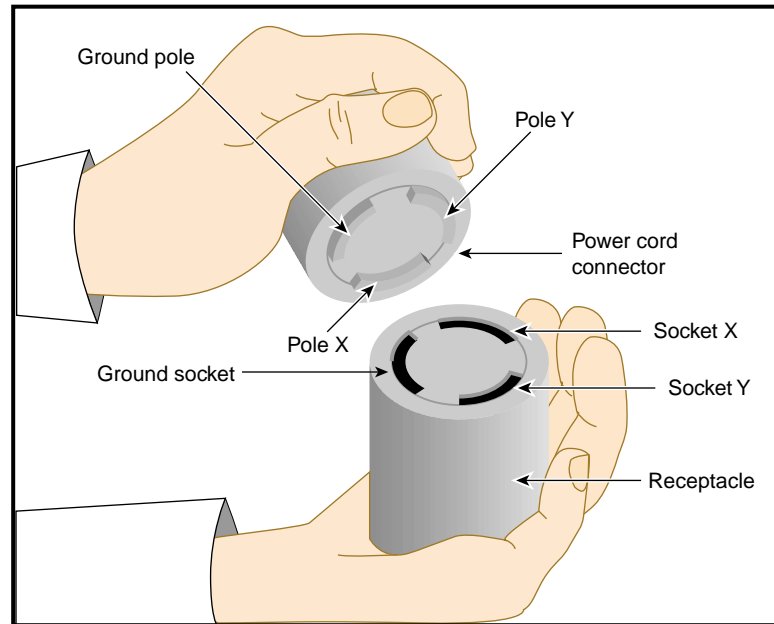

Figure 2-1 30-amp Single-phase Power Receptacle for North American Sites
2. Check the voltage between socket X and socket Y (refer to Figure 2-1). The meter should read between 200 and 240 Vac.